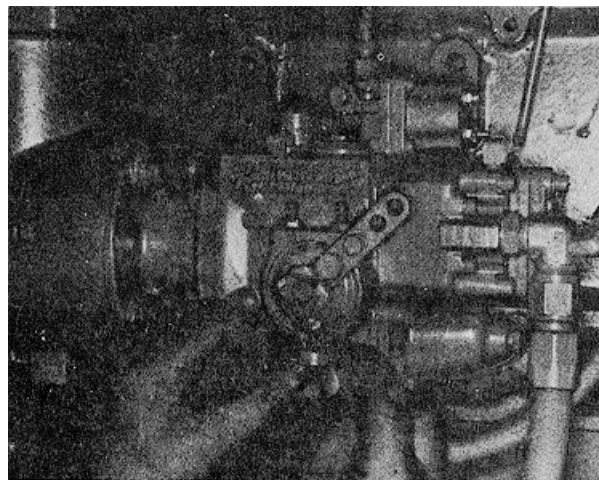

Fig. 535 F5181. Sealing fuel pump
1. To prevent unauthorized adjustments of the fuel pump after final adjustments are made, seal the spring pack housing lower capscrews and the rear throttle screw or throttle cover and spring pack cover plug. Fig. 535.